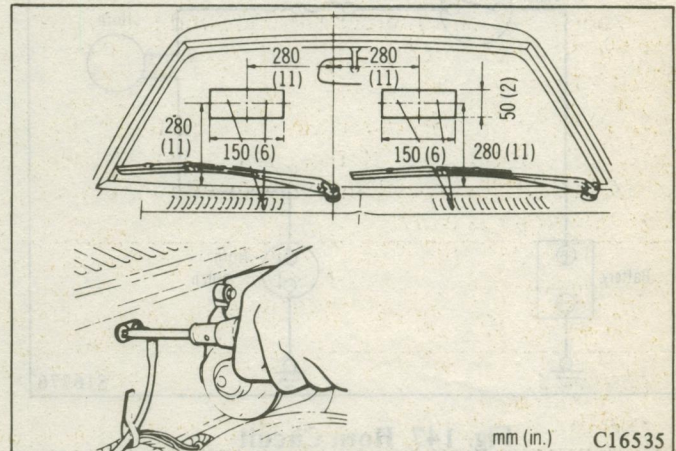

Fig. 145 Nozzle Ejection Angle Adjustment
(1) Adjust the washer nozzle position by bending the nozzle bracket so that the central height of ejected liquid will be as shown in Fig. 145.